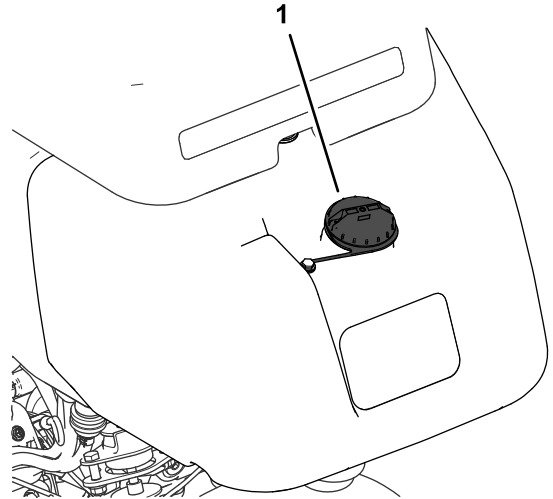

Figure 27
1. Clean around the fuel-tank cap and remove it (Figure 27).